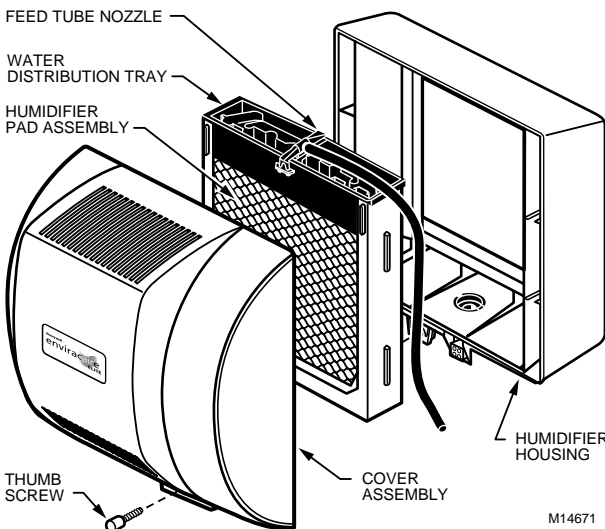

Fig. 11. Location of humidifier parts.
2. Remove the humidifier cover. See Fig. 11.